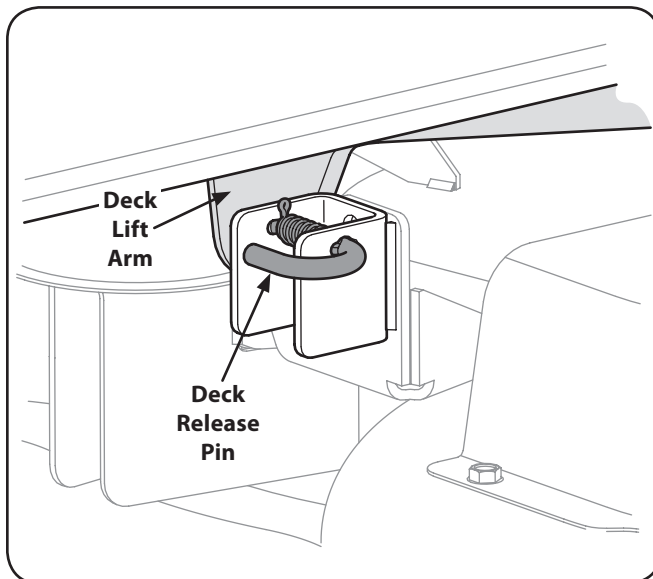

Figure 7-7
7. Locate the LH and RH deck release pins on each side of the deck. Pull the release pins outward and release the deck from the LH and RH deck lift arms. See Figure 7-7.
4. Pull the deck release pins outward and maneuver the deck as necessary to align the holes in the deck lift arms with the pins. Refer to Figure 7-7.